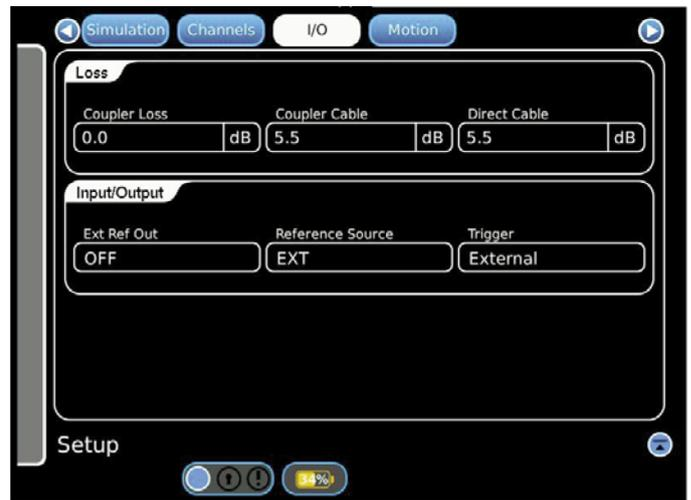

Figure 4
- On GPSG-1000 #2 Menu Bar select Setup. On the Setup screen at the top row select the I/O tab. Set Ext Ref Out to OFF, Reference Source to EXT, and Trigger to External. See Figure 4.